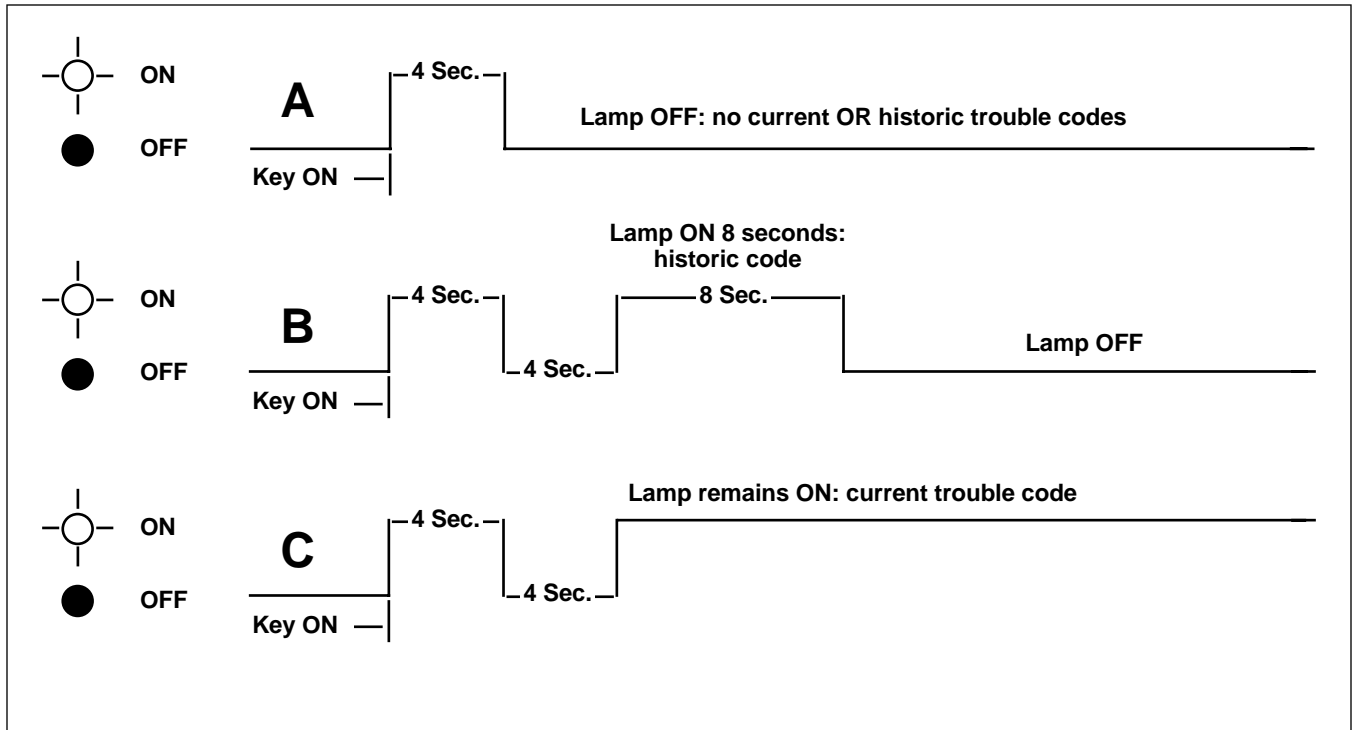

Figure 3-9. Security Lamp Operation
2. See Figure 3-9. After the lamp turns off after being illuminated for the first four second period, one of three situations may occur.